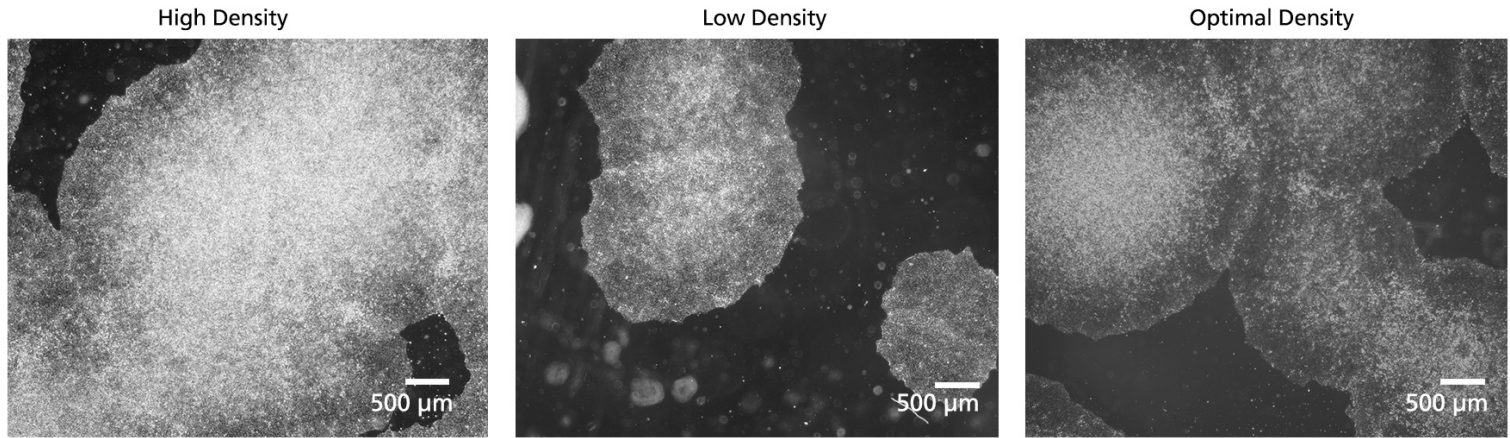

Figure 2. SCTi006-A iPSCs Demonstrate Varying Colony Densities When Seeded at a Range of Starting Concentrations.
14. On Day 6 - 8, select the well with optimal iPSC colony density for passaging (Figure 2). The culture should consist of healthy iPSC colonies that are large, compact, and have centers that are dense compared to their edges.